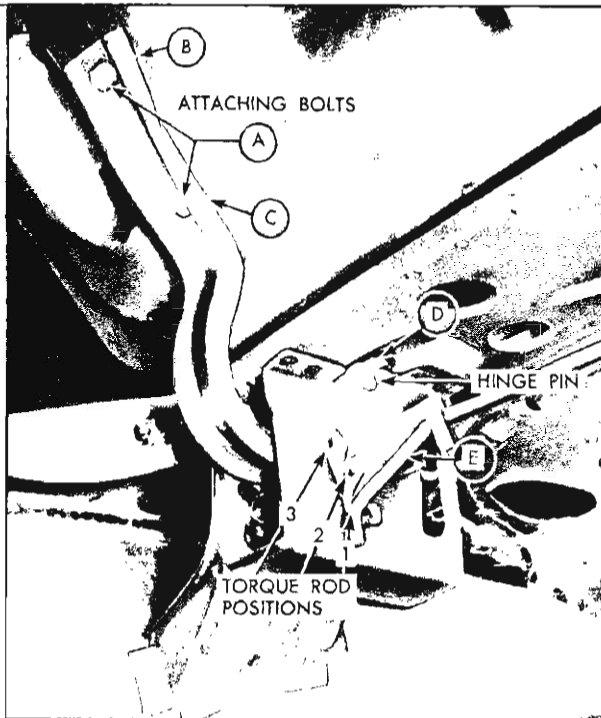

Fig. 78—Rear Compartment Hinge and Torque Rod
4. With aid of helper, remove lid attaching bolts "A" (fig. 78) and remove rear compartment lid.
- a. To raise front edge of lid at hinge area, place shim between lid inner panel and forward portion of one or both hinge straps at "C" Figure 78.
- b. To lower front edge of lid at hinge area, place shim between lid inner panel and rearward portion of one or both hinge straps at "B" Figure 78.
4. With a suitable tool disengage torque rod from notched retainer on inboard face of opposite hinge box "E" (fig. 78).
6. Bend up hinge pin retaining tab on inboard face of hinge box "D" (fig. 78); remove hinge pin and then remove hinge from box.
The amount of effort required to open and close the rear compartment lid is determined by the position of the torque rod in the notches on the inboard face of the hinge boxes. If the torque rod is located in the lowest most forward notch (position #1), the amount of effort required to open the lid is the greatest and the amount of effort required to close the lid is the least. If the torque rod is located in the top or most rearward notch (position #3) the amount of effort to open the lid is the least and the amount of effort to close the lid is the greatest. See "E" (fig. 78).